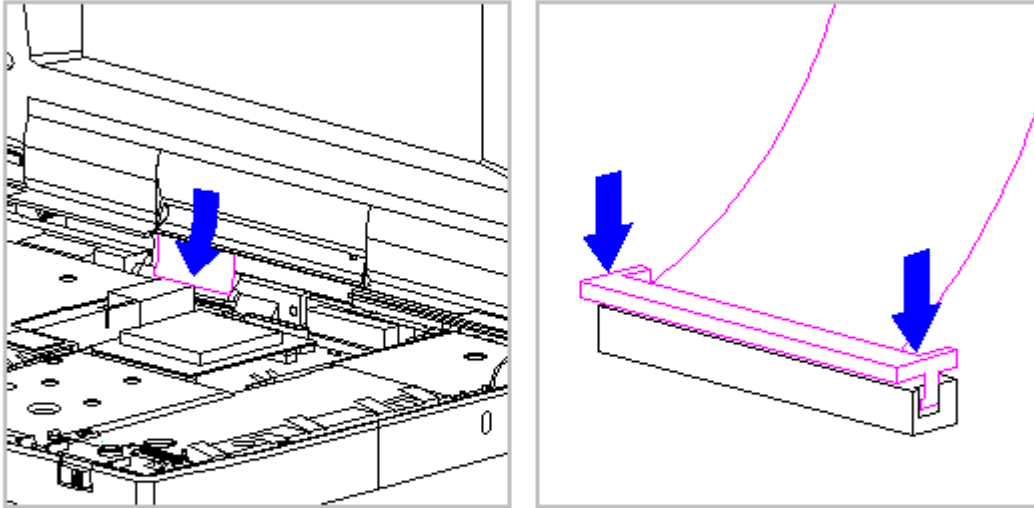

Figure 3-182. Connecting the Display Cable to the System Unit Module (All Models)
32. While holding the end of the display cable inside the ZIF connector slide, press down both ends of the slide simultaneously to secure the cable in the ZIF connector (Figure 3-182).